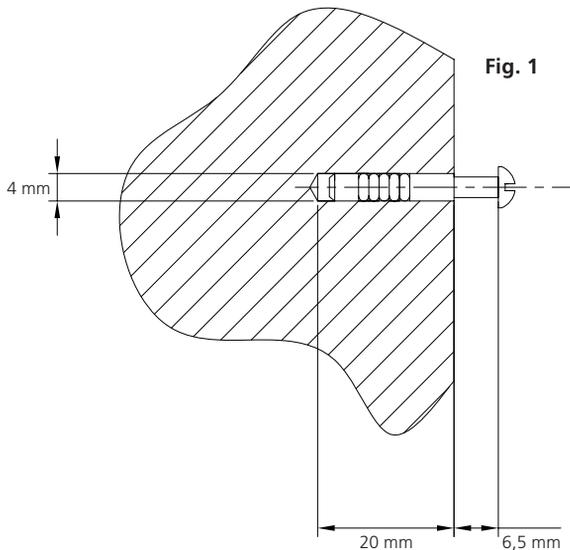

Fig. 1
- Screw one of the attached screws in the upper dowel until the distance between the wall and the screw head amounts to ca. 6.5 mm (see fig. 1).